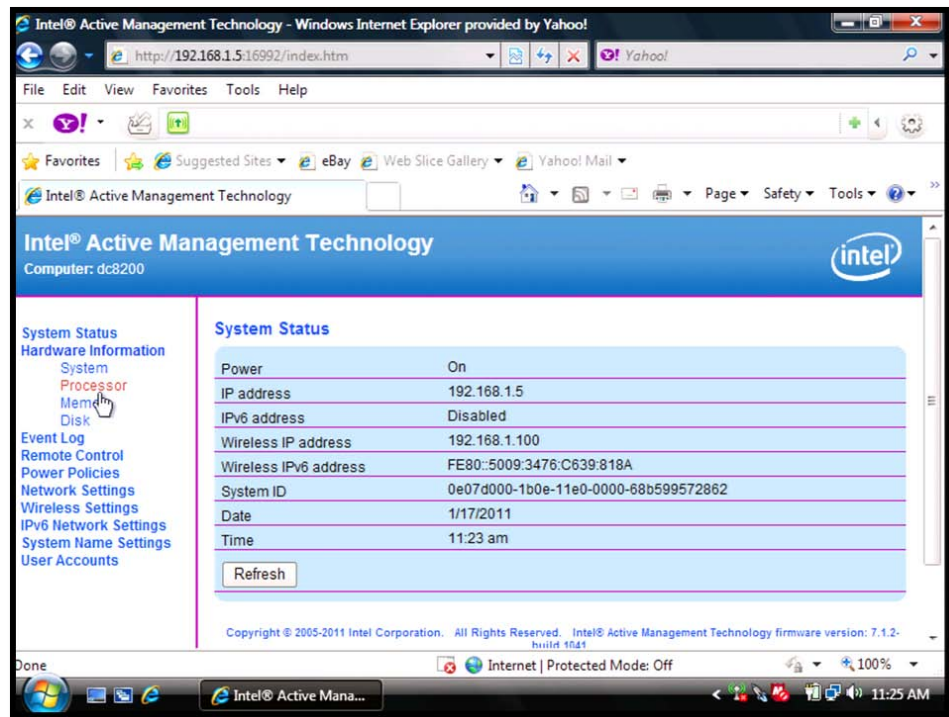

Figure 21. Intel AMT Wireless Settings, System Status screen
- v. Select **System Status** to display the Wireless IP address (Figure 21). ME wireless only supports IPv6 address.